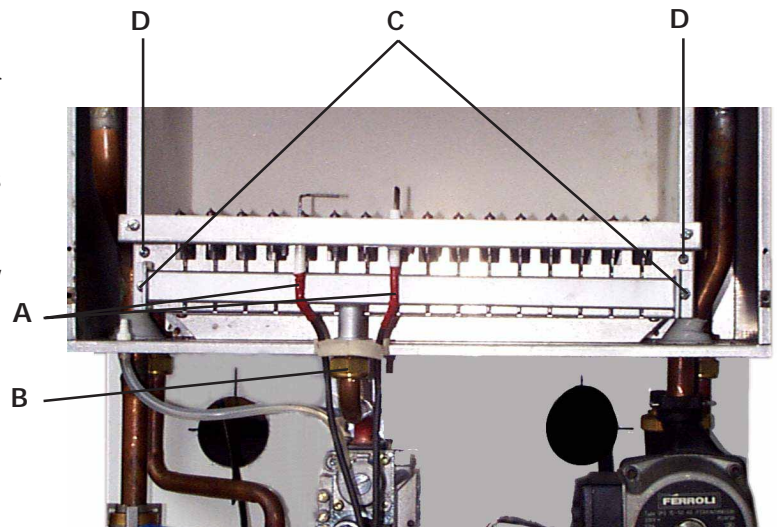

Fig. 30
7.08 Removal of burner (fig. 30)
7.09 Injectors (fig. 30)